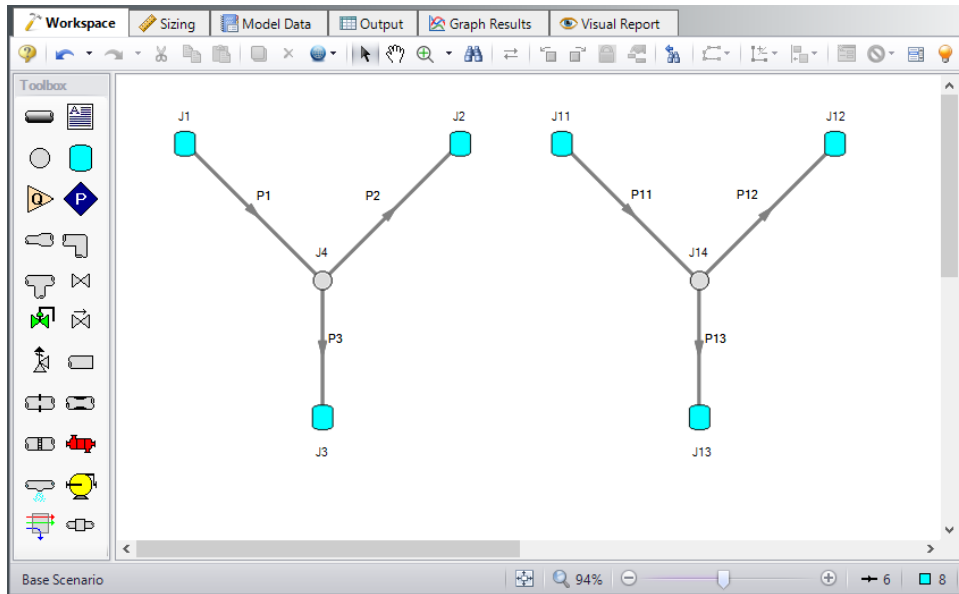

Figure 7: Workspace with dependent design case after duplication
5. Move the duplicated pipes and junctions to distinguish them from the original ones from the Primary Design Case. The Workspace should now appear as shown in Figure 7.